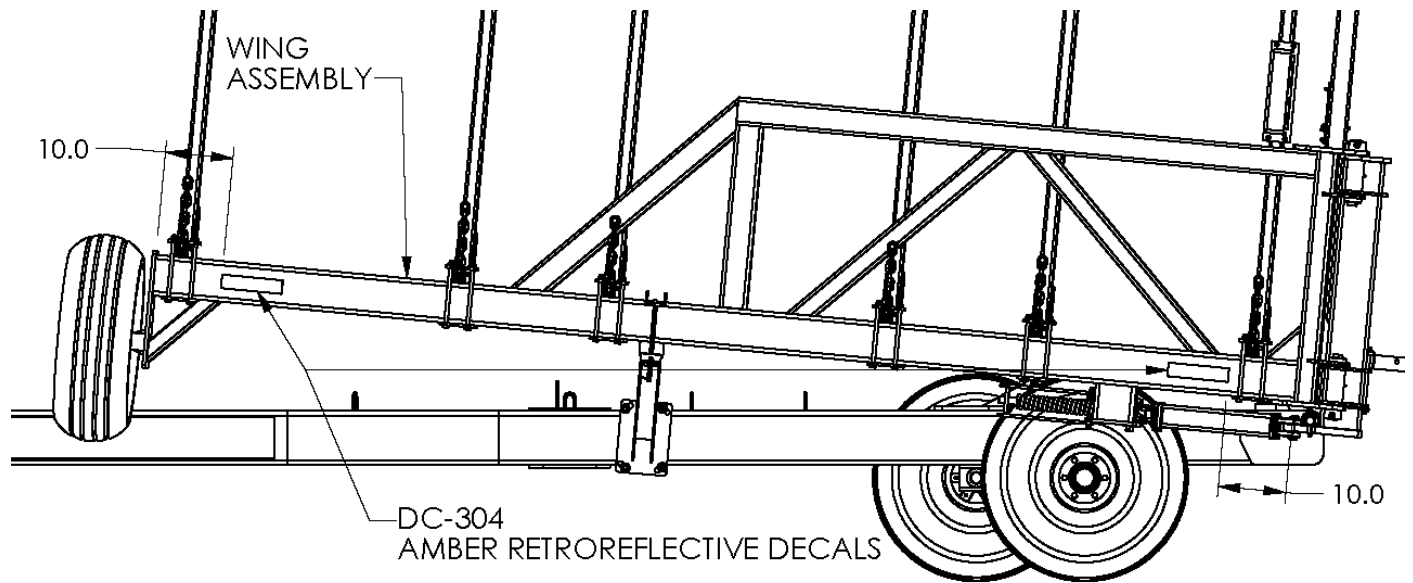

Figure 29
2. Apply the amber retroreflective (DC-304) decals to both wings as shown in Figure 29.